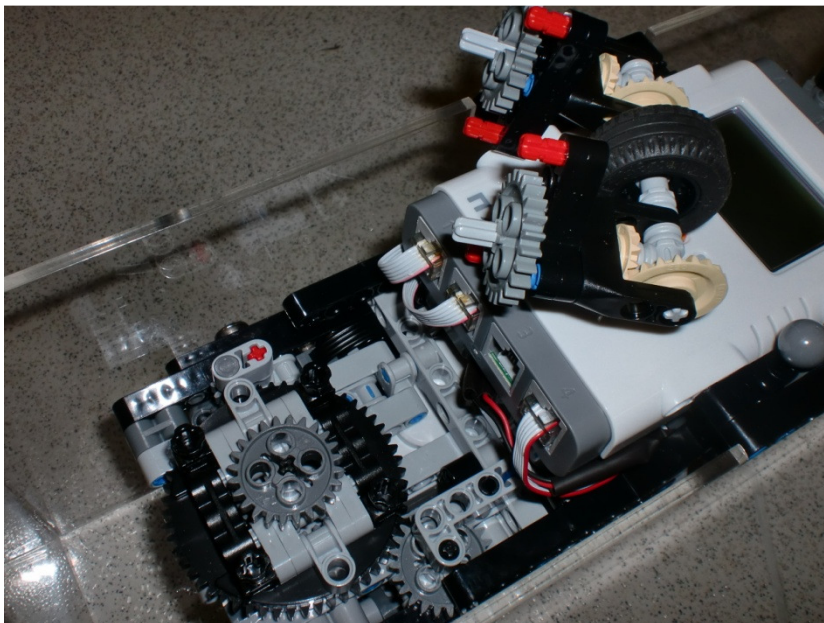

Figure 5 - Wheel removed to avoid USB cable colision
**NOTE:** When using USB, do not forget to remove the wheel structure close to the USB interface, to avoid damage in both the LEGO structure and the USB cable, by accidentally rotating the wheel (figure 5).